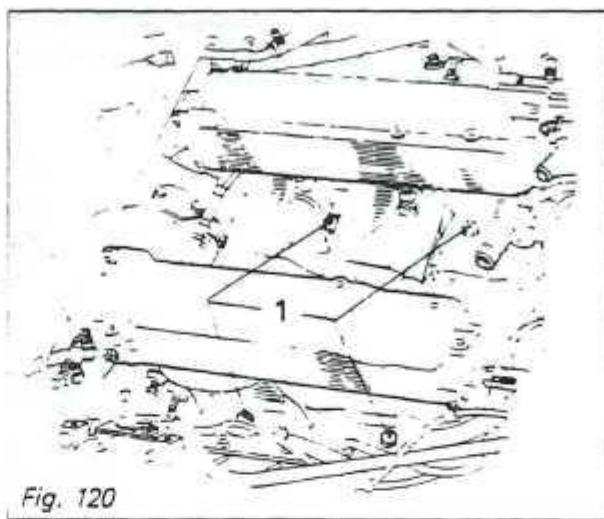

Fig. 120
Unscrew the 4 manifold bolts (1). (Fig. 120)